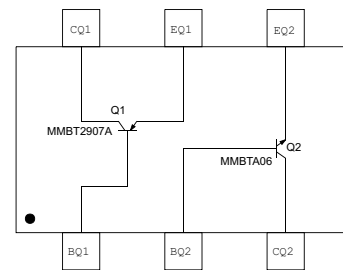

Fig. 2: Schematic & Pin Configuration
- Terminal Connections: See Fig. 2